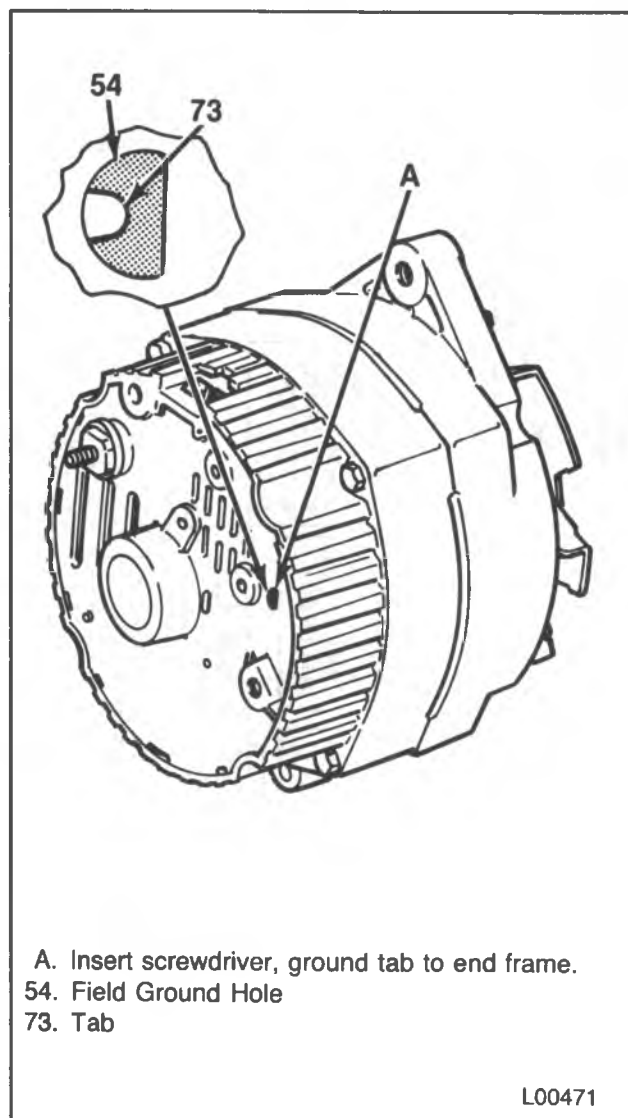

Figure 15 — Generator Field Ground Tab
9. If the ampere output is not within 10 percent of the rated output in amperes, see if the field ground hole is accessible (figure 15). If it is not accessible go to step 14.